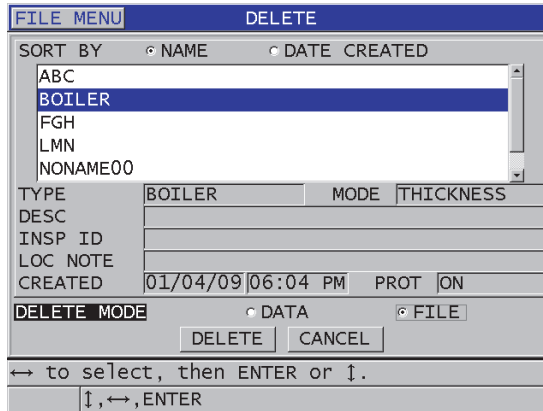

Figure 11-20 Deleting a file
3. In the **DELETE** screen (see Figure 11-20 on page 209):